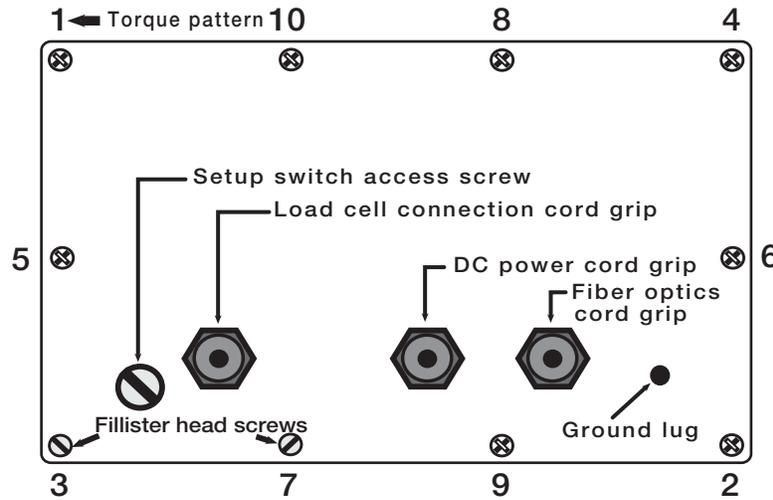

Figure 2-8. 320IS Enclosure Backplate
2. Reinstall the backplate screws. Use the torque pattern shown in Figure 2-8 to prevent distorting the backplate gasket. Torque screws to 15 in-lb (1.7 N-m).